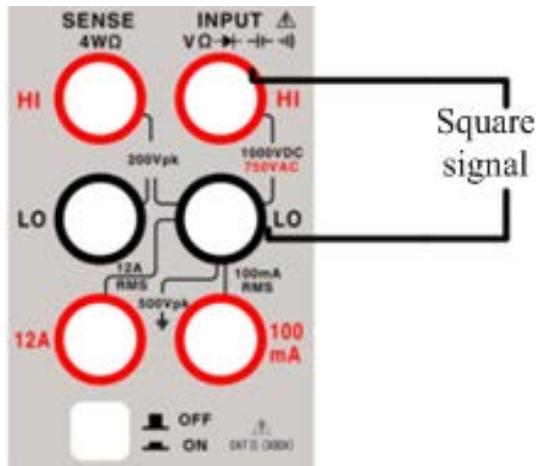

Figure 2.7.2 Five and a half digits duty cycle measurement terminal connection
2. According to Figure 2.7.2, connect the red and black test leads respectively to the proper input terminals.